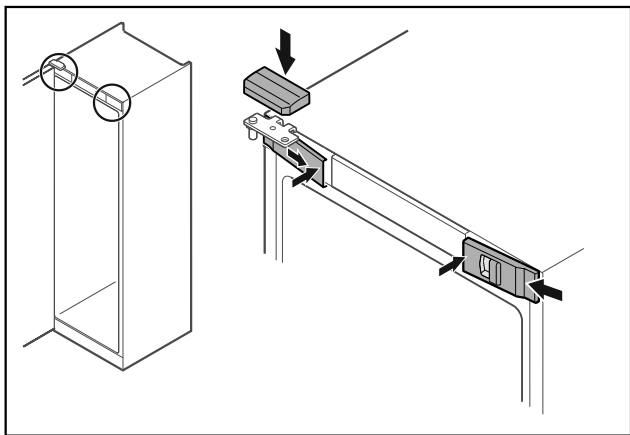

Fig. 46
- Hook in the front covers Fig. 46 (1) on the side and snap them into place on the inside.
- Snap on the top cover Fig. 46 (2) from above.